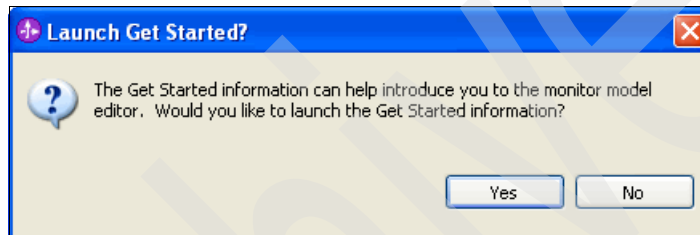

Figure 8-56 Selecting No to skip the Get Started information
11. In the Launch Get Started message window (Figure 8-56), click **No**.